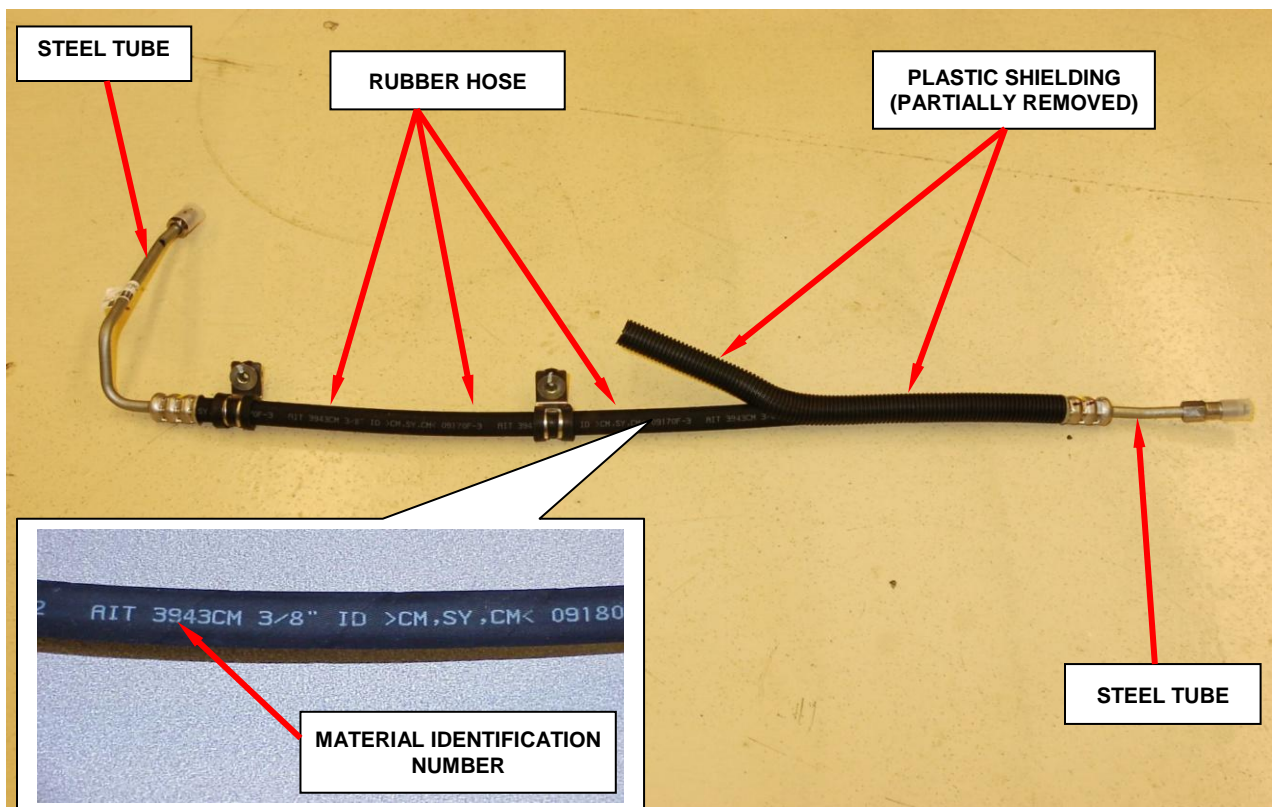

Figure 1 – Typical Power Steering Pressure Hose Configuration
3. Read the material specification number that is ink stamped on the entire length of the rubber portion of the power steering pressure hose (Figure 1):